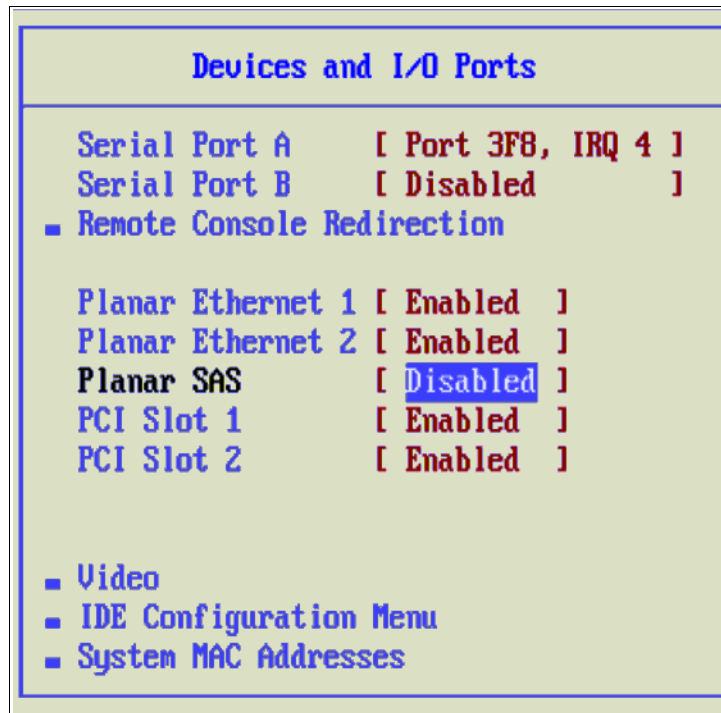

Figure 6-5 Disabling Planar SAS
3. Disable any onboard or internal hard drives. In our example, we disable the **Planar SAS** for internal drives, as shown in Figure 6-5.